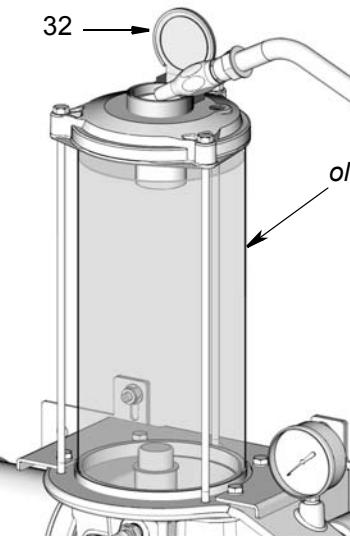

FIG. 7
2. Slowly add oil (ol) until reservoir is filled to capacity (FIG. 7). Take care to not fill reservoir too quickly and overflow the reservoir capacity.
3. Close oil fill cap (32) to prevent contamination and spillage (FIG. 7).